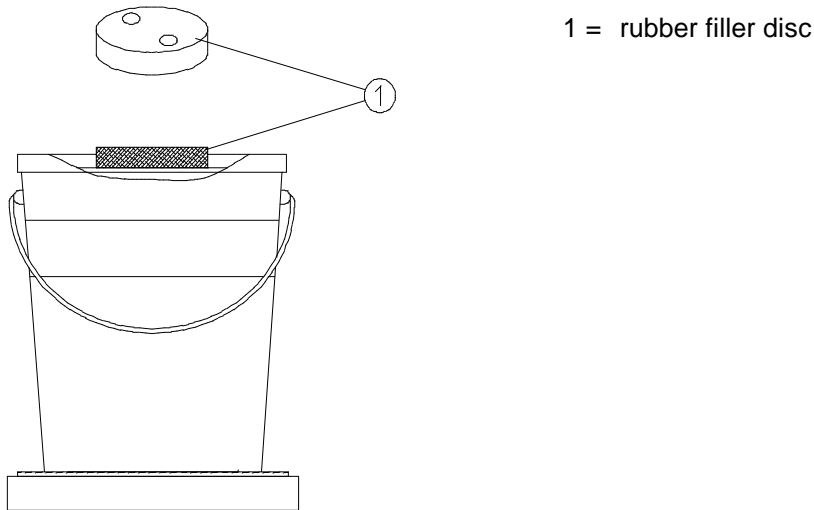

figure 7
5.3 Use of filler discs (see Figure 7)